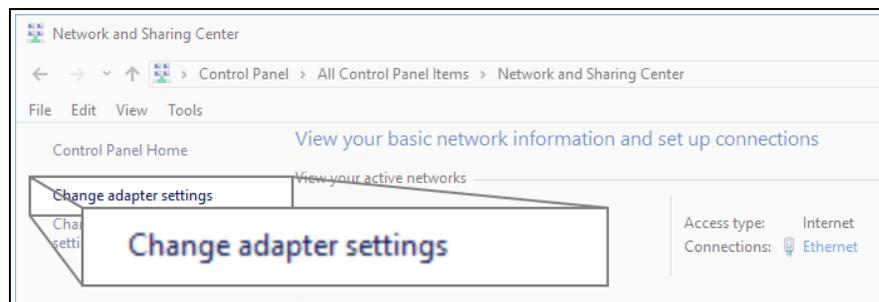

Figure 30: Change Adapter Settings Link
4. Click the **Change Adapter Settings** link. Figure 30